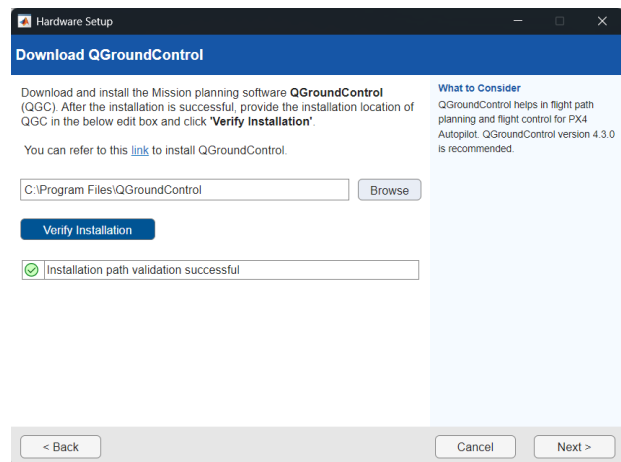

Figure B.10: Screenshot of the QGroundControl verification window.
12. Next, verify the QGroundControl installation as shown in Figure B.10.